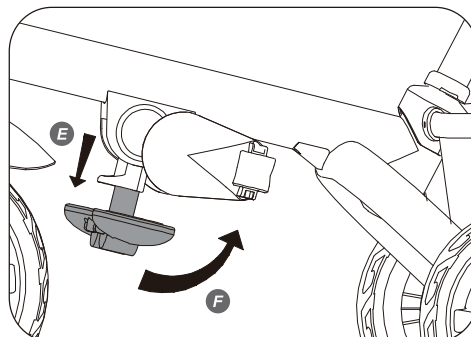

Fig. 17
21. To raise or lower the Foot Pegs, pull Foot Peg Adjuster **E** away from the Frame and then rotate up or down (See Figure 17).
22. The Foot Pegs can then be folded inward or outward as required **F** (See Figure 17).